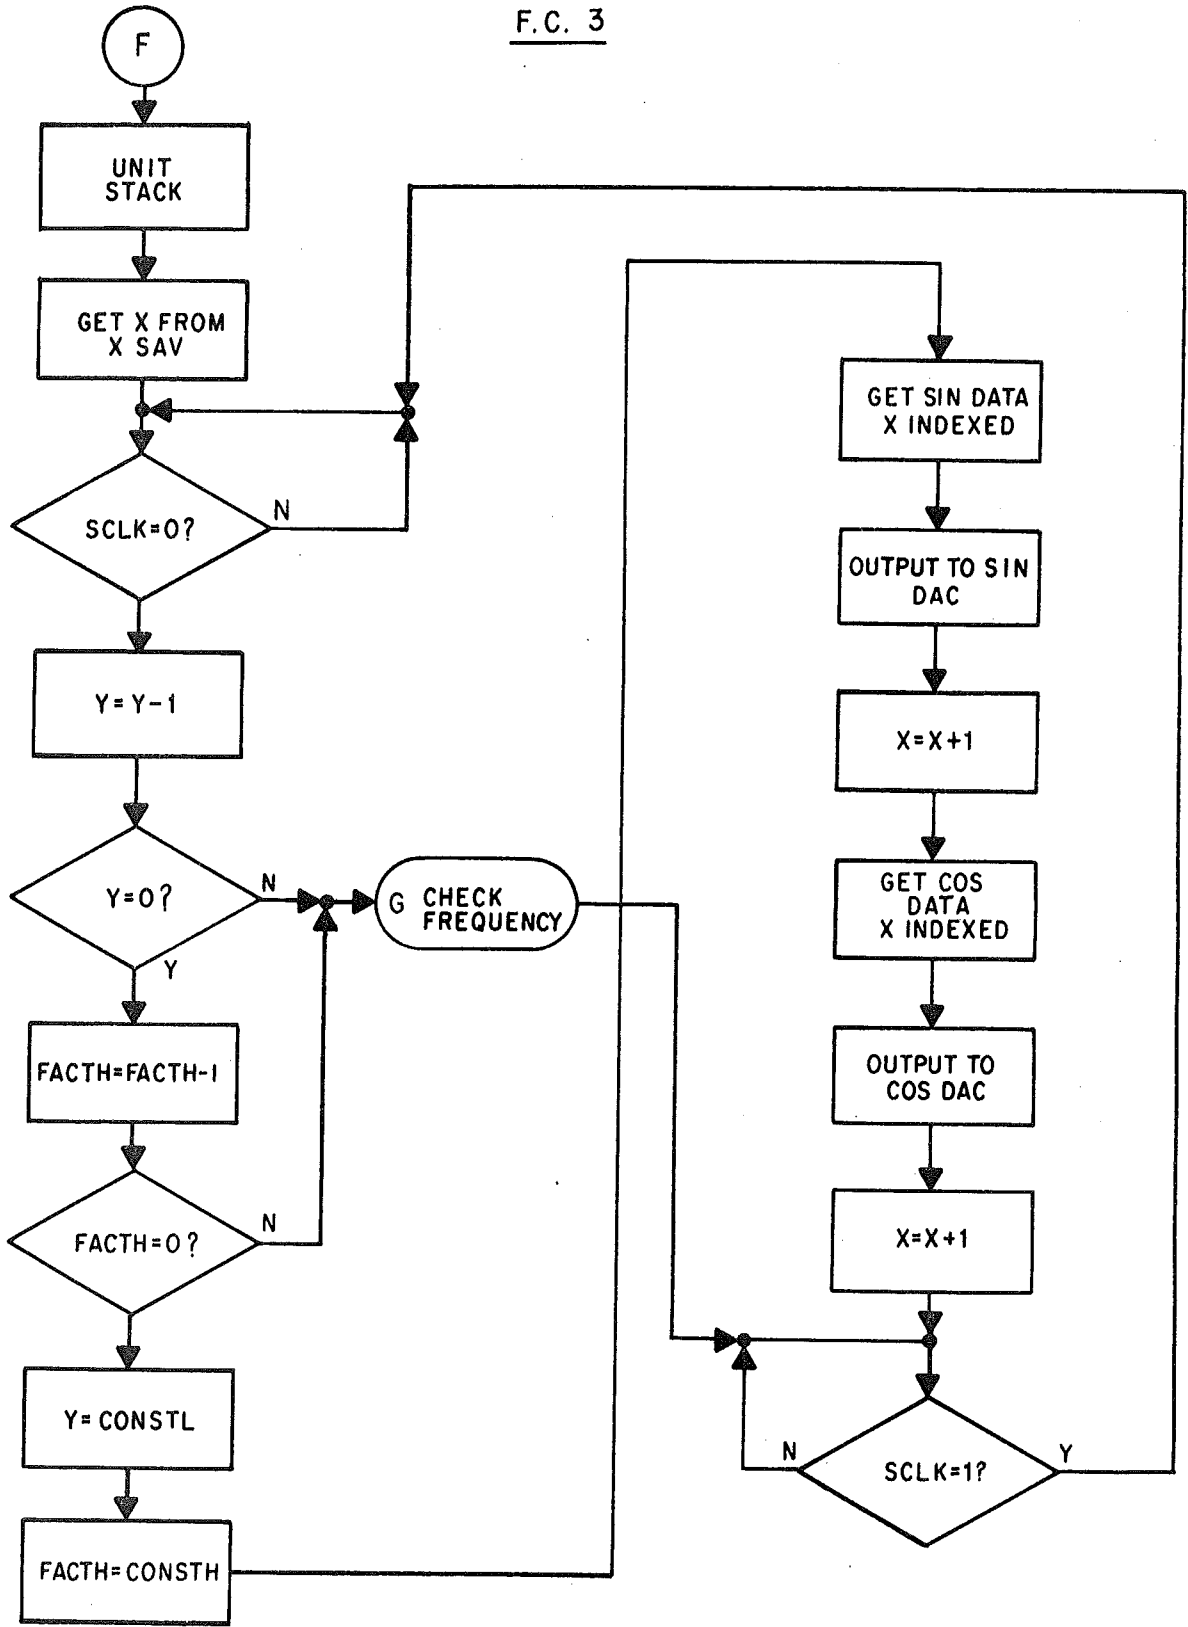

FIGURE 4-9 FLOW CHART GENERAL SPEED LOOP
At this point, the constants have already been loaded, so the index register has been incremented once from its original number. If it contains a \$5 or \$15, this indicates that the external step mode is to be enabled. If it contains a \$18, the speed is 100mm/sec, which is a special loop. If it contains a \$10, the speed is 200mm/sec. which is a special loop. If it contains a number greater than \$10, the code is invalid, and we return to the stop routine, and eventually attempt to re-decode it. If none of the above is true, the speed is between .05 and 50mm/sec and we go to the general speed loop (Figure 4-9, point (F)).
1. General Speed Loop (Flow Chart, Figure 4-9)
the Y register is decremented and compared to zero. If it is not zero, the processor goes to the frequency check subroutine (point G, Figure 4-9), and then returns to wait for step clock to go high again.